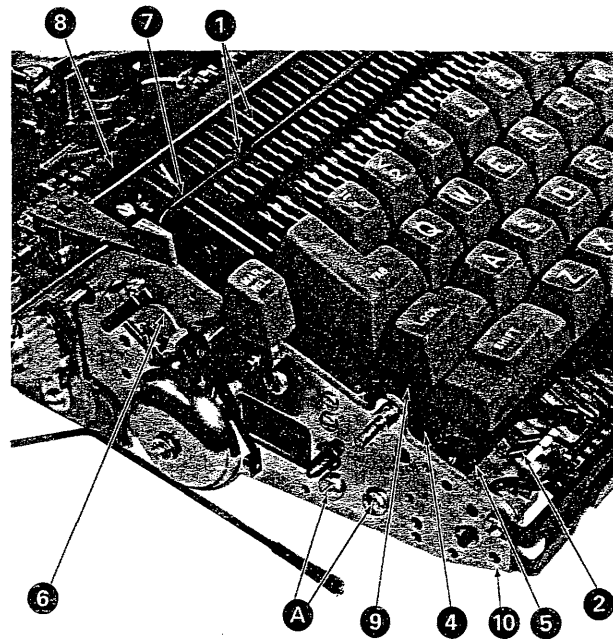

Figure 4-60. Keylever Removal
8. On keyboards with two banks of keylever-pawl leaf springs spanning the character keylevers: disengage the spring leaf from the keylever to be removed, remove the keylever upstop, and pivot the support across the front of the keyboard forward and down on its lower screws (No. 10, Figure 4-60).